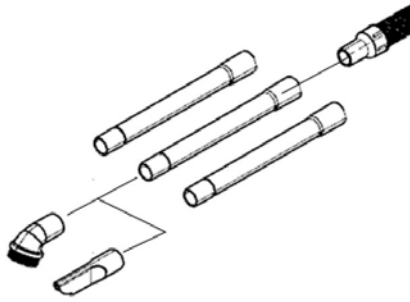

Fig. 8: Assembly of the suction tube
Step 5: Insert the other side of the flexible hose into the suction tube (Fig.8). Turn the handle to make a tight connection.